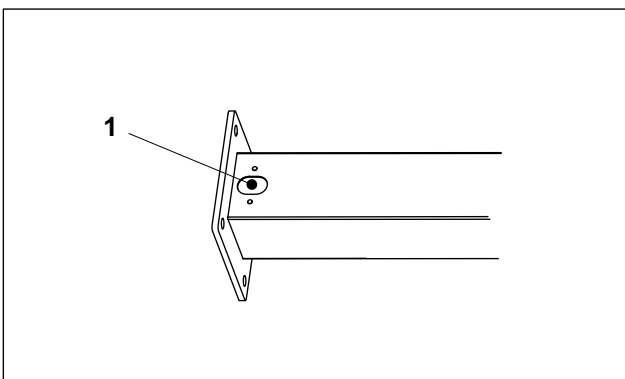

Fig. 5 Cable entry into the column
5. Attach a cable protecting sleeve (separate parts set) to the cable entry opening (Fig. 5/1).
If equipotential bonding of the column is required, a separate equipotential bonding line must be routed to the column. This also applies to additional lines required for an optional external disable/enable device. These lines must also be fed through the cable entry (Fig. 5/1).